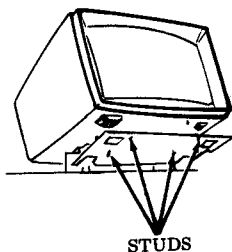

Fig. 65
Step 2 — Install bottom plate to underside of monitor (Fig. 65):